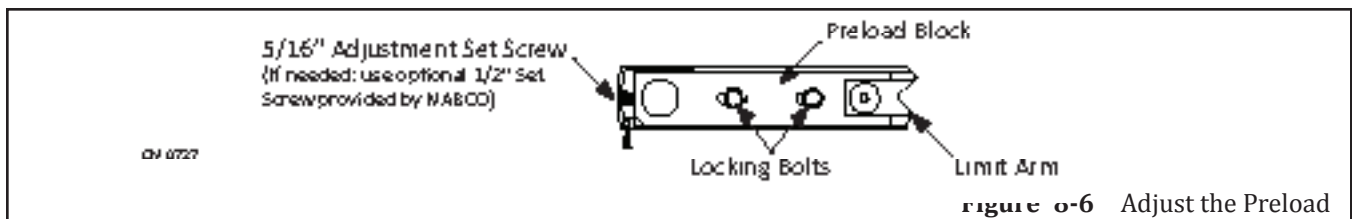

Figure 8-6 Adjust the Preload
3. Go to the Preload Block located inside Top Rail. Please see Figure 8-6.
4. Loosen (2) Locking Bolts.